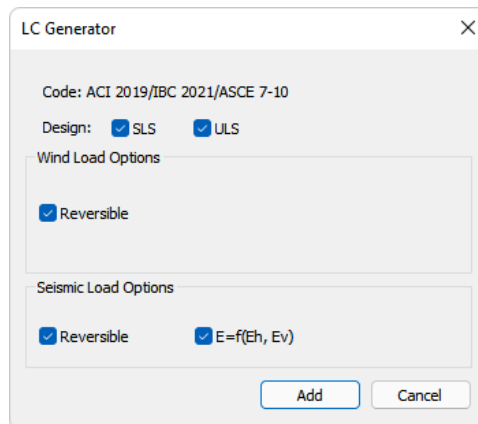

FIGURE 2-21
- Click on the **LC Generator** button at the bottom of the window. This will open the LC Generator window in **FIGURE 2-21**.